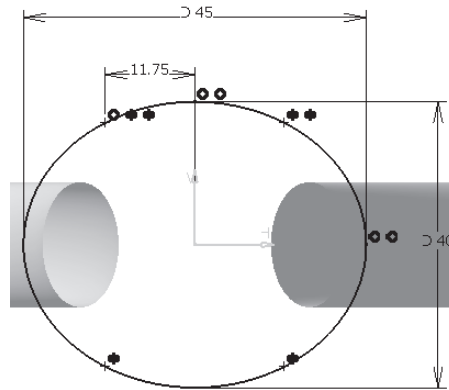

Figure 10-70 The second section for creating the multi-section surface
6. Draw the sketch for the second section, as shown in Figure 10-70. Note that the sketch consists of an ellipse and four points.